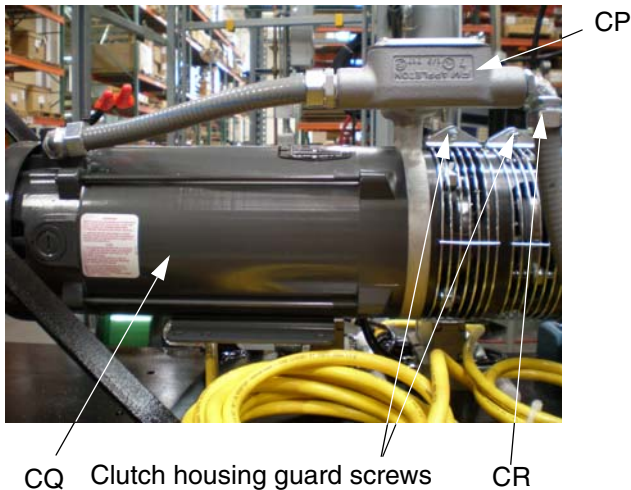

FIG. 11
- Remove two screws from clutch housing guards; remove guards. Disconnect black air hoses from the clutch assembly. See FIG. 11.
- Open the wire box on the speed sensor motor adapter (CP). Disconnect the white, red, and black wires. See FIG. 11.
- Loosen fitting (CR) at top of speed sensor motor adapter (CP). See FIG. 11.
- Connect electric motor (CQ) and the module drive unit of the clutch assembly.
- Install electric motor (CQ) and module drive unit to the module brake unit with four black socket head cap screws.
- Tighten fitting (CR) on top of speed sensor motor adapter (CP). See FIG. 11.